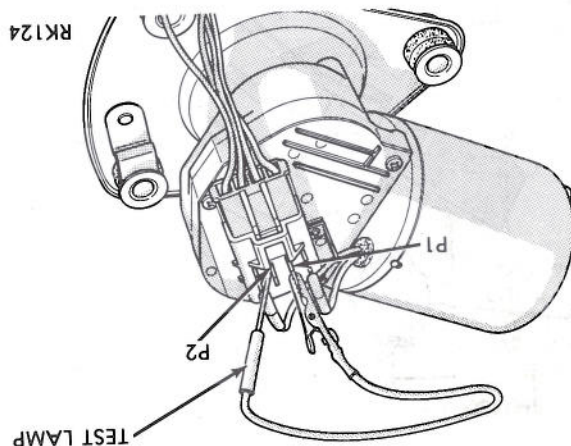

Fig. 2—Test Lamp Between Terminal "P₁" and "P₂"
- If there is periodic flashing, the control unit is faulty and should be replaced. If there is no periodic flash, continue to step (4).
- (4) Check for periodic flashing between wiper motor terminals P₁ and P₂ (Fig. 2).
- (5) If periodic flashing continues check wiring for damage.